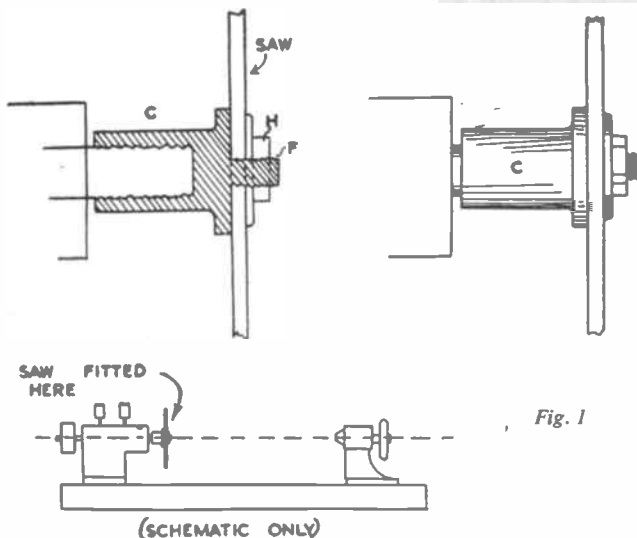

Fig. 1
We need four pieces of cardboard prepared in the form of a hexagon as shown in Fig. 1. Two of these, for the outer top and outer base, should be a little stouter than the other two and material from an old carton will be quite suitable.
They are fixed in a jiffy, do not look unsightly and can be used over and over again. Made from galvanized iron wire they do not rust and can be made quickly and easily. Wind the wire round a piece of dowel rod or similar former, slide off and cut up, leaving a slight overlap (Fig. 1).
The saw itself (8ins. diam.) is fastened to the lathe spindle, and Fig. 1 shows how it is done by the adapter (E). Made of brass, this is bored and internally threaded at the one end to go on the externally threaded spindle, while at the other it is turned down to a short length of small diameter (F) which just goes through the centre hole of the saw. This length is also threaded to take the nut (H), which, with the washer shown, keeps the disc tightly in place.